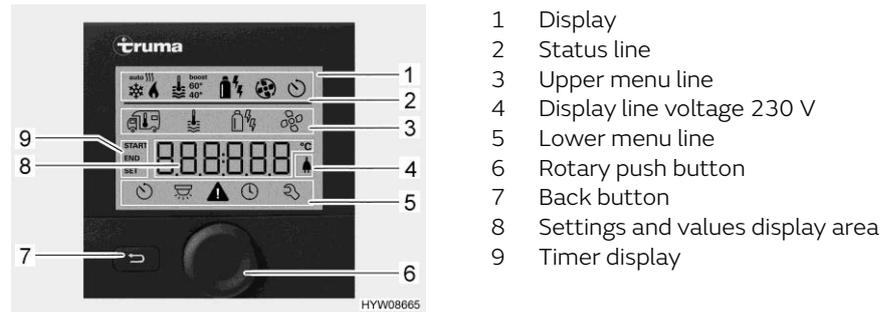
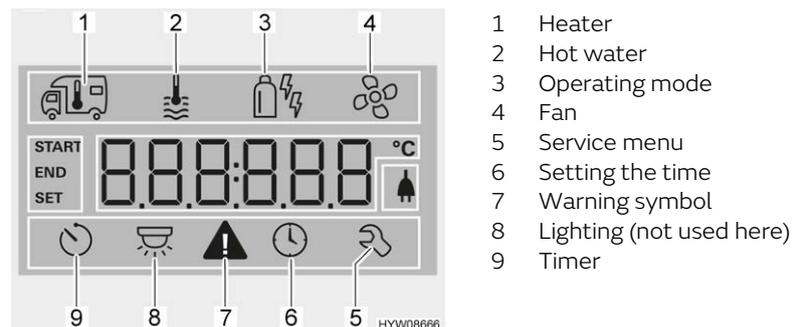

Fig. 209 Operating unit with displays
Fig. 210 Display (operating unit)
- Status line (Fig. 209,2)
- Upper menu line (Fig. 209,3)
- Display area (Fig. 209,8)
- Lower menu line (Fig. 209,5)
- Press and hold the rotary push button (Fig. 209,6) for approx. 3 seconds. Both menu lines (Fig. 209,3 and Fig. 209,5) are displayed. The first symbol flashes.
- Turn rotary push button (Fig. 209,6) until the required menu symbol flashes.
- Press rotary push button to save the value set. If you do not wish to change the value originally set: Press back button (Fig. 209,7).
- Turn rotary push button (Fig. 209,6) until the heater menu symbol (Fig. 210,1) flashes.
- Press rotary push button to save the value set. The symbol in the status line (Fig. 209,2) flashes until the room temperature set is reached. If you do not wish to change the value originally set: Press back button (Fig. 209,7).
- Turn rotary push button (Fig. 209,6) until the hot water menu symbol (Fig. 210,2) flashes.
- Press rotary push button to save the value set. The symbol in the status line (Fig. 209,2) flashes until the hot water temperature set is reached. If you do not wish to change the value originally set: Press back button (Fig. 209,7).
- Turn rotary push button (Fig. 209,6) until the menu symbol operating mode (Fig. 210,3) flashes.
- Press the rotary push button to save the set operating mode. To revert to the original setting: Press back button (Fig. 209,7).
- Turn rotary push button (Fig. 209,6) until the fan menu symbol (Fig. 210,4) flashes.
- Turn rotary push button (Fig. 209,6) until the timer menu symbol (Fig. 210,9) flashes.
- Press rotary push button. The timer is activated. The timer symbol (Fig. 210,9) flashes when the timer is programmed and active.
Fault display The warning symbol (Fig. 210,7) flashes in the event of a warning. The heater continues to operate. In the event of only a temporary fault, the warning symbol goes out automatically.